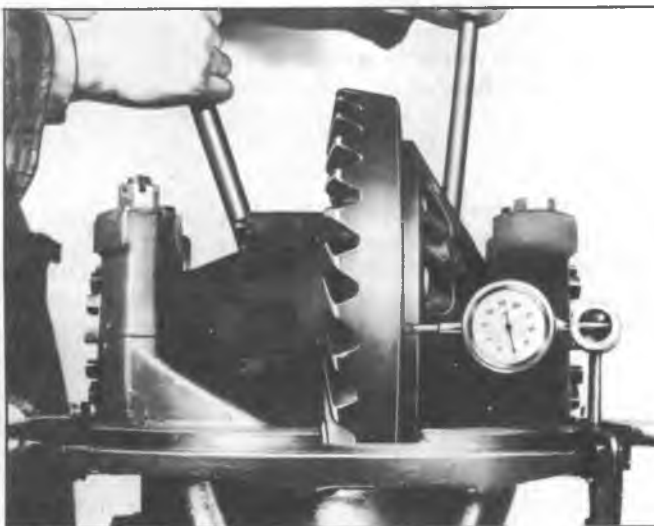

Fig. 7L—Checking End Play, Using Dial Indicator
3. Turn in right-hand adjuster until punch mark is in original position (View B, fig. 2L). Turn in left-hand adjuster until no end play exists between differential and carrier. Check for end-play using dial indicator as shown in Figure 7L. Then revolve ring gear and check for run-out.